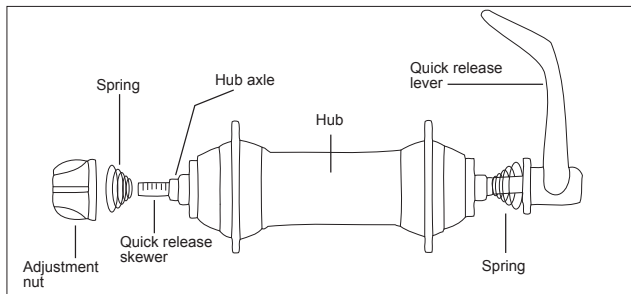
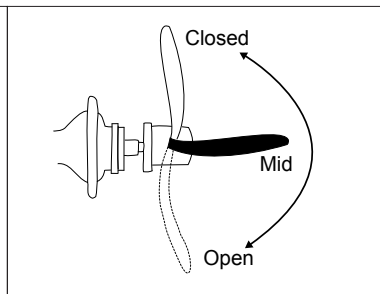

Fig. 7: Traditional quick release; diagram of parts.
Fig. 8: Positions of a quick release.
1. Remove the quick release adjustment nut by rotating it counter-clockwise to loosen. Remove the first spring next to the adjustment nut, and set both pieces aside (Fig. 7).
3. The end of the skewer should stick out from the opposite side of the hub. Slide the spring that was removed in step 1 back onto the end of the skewer, and thread the end nut back onto the skewer, turning it clockwise. You can see the layout and order of parts in Fig. 7 on the opposite page.
1. Move the quick release lever to the **OPEN** position (Fig. 8) and set the wheel so it fully engages the frame dropouts.
2. With the lever in the **MID** position (Fig. 8), tighten the adjusting nut (Fig. 7) until it is slightly tight.
3. Move the quick release into the closed position (Fig. 8) with the palm of your hand.